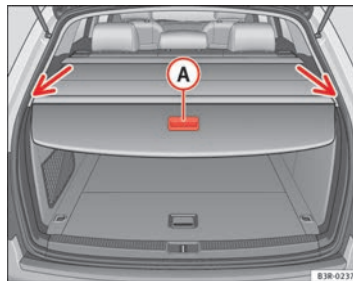

Fig. 118 Rear lid open with luggage compartment cover closed
- Using handle (A) ⇒ Fig. 118, pull the rolled-up cover evenly towards the rear of the vehicle.
- Insert the ends of the bar into the grooves in the left and right-hand side trim ⇒ Fig. 118 (arrows).